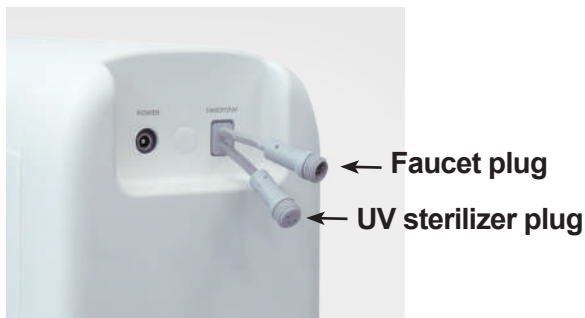

Figure 17
1. Connect the RO faucet to the system: Insert the power cord, which is attached to the RO faucet, into the “FAUCET” connector (Figure 17) and tighten the nut. The faucet connector can be found at the back of the housing.
2. Connect the UV sterilizer to the system: Insert the power cord, which is attached to the UV sterilizer, into the “UV sterilizer” connector (Figure 17) and tighten the nut. The UV sterilizer connector can be found at the back of the housing.